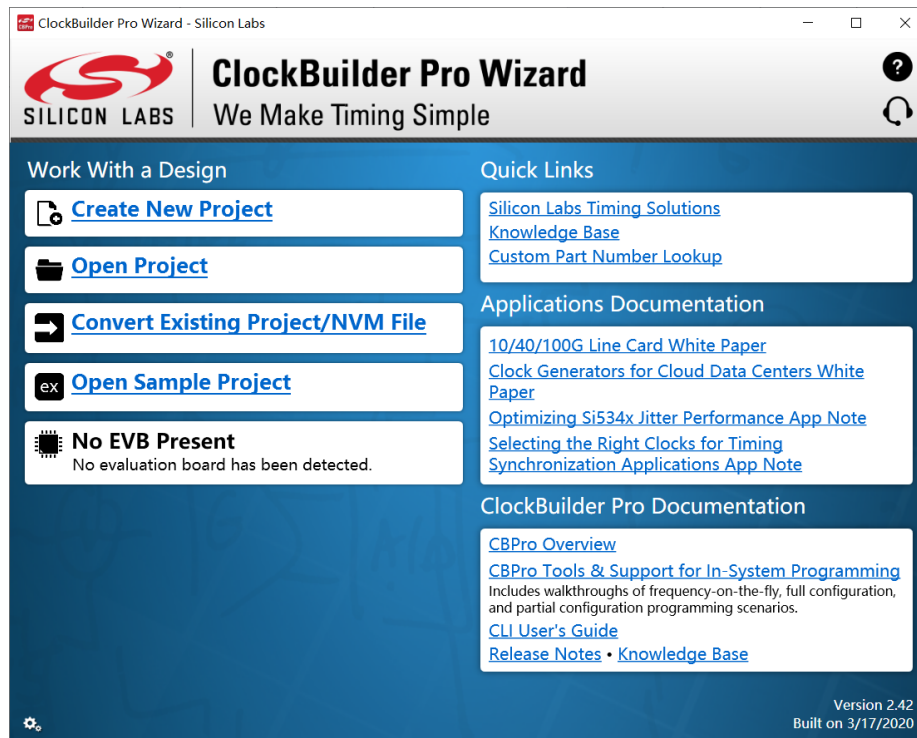

Figure 2-2 ClockBuilder Pro Wizard
1. Firstly, download ClockBuilder Pro Software (See **Figure 2-2**), which is provided by Silicon Labs. This tool can help users to set the Si5340A's output frequency of each channel through the GUI interface, and it will automatically calculate the Register parameters required for each frequency. The tool download link: [http://url.terasic.com/clockuilder ro ofware](http://url.terasic.com/clockuilder_ro_ofware)